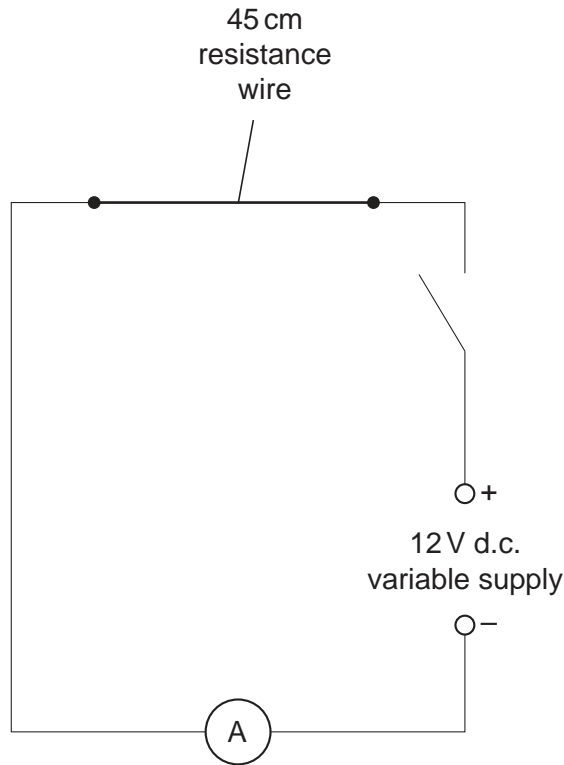

Fig. 2.2
- (a) Connect 45 cm of resistance wire, an ammeter and a 12V variable power supply in series, as shown in Fig. 2.2. Use the crocodile clips available to make electrical contact with the measured length of the resistance wire.